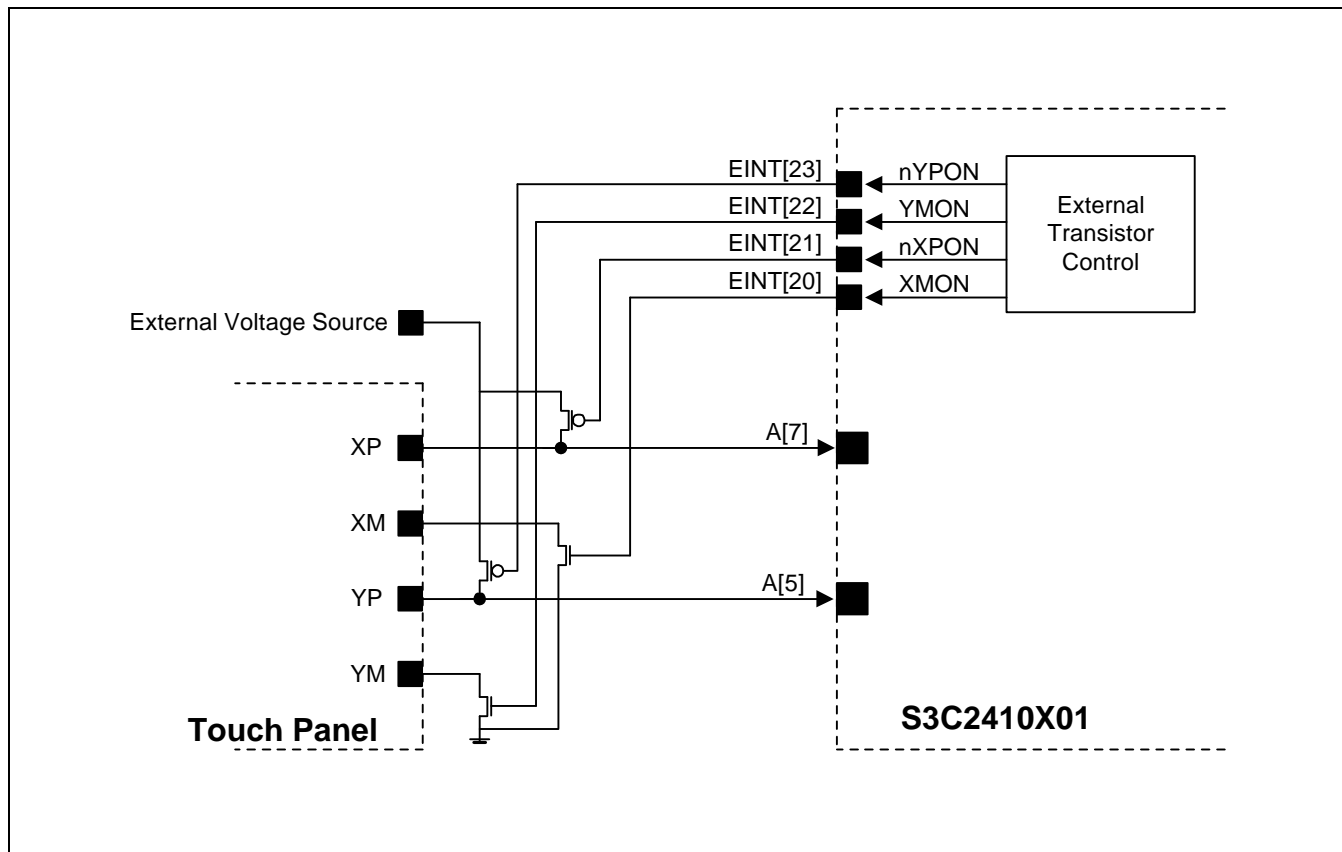

Figure 16-2. Example of ADC and Touch Screen Interface
The S3C2410X supports Touch Screen Interface, which consists of a touch screen panel, four external transistors, an external voltage source, AIN[7] and AIN[5] (see Figure 16-2).
1. Connect pads of the touch screen panel to the S3C2410X using external transistor (see Figure 16-2).